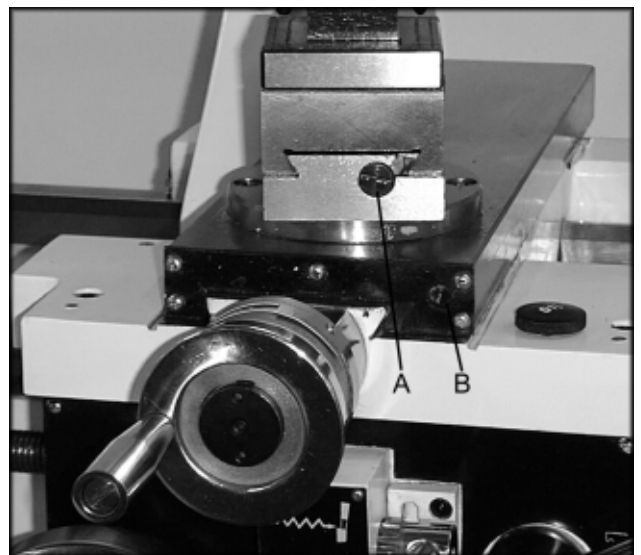

Fig. 22
2. Tighten the front gib screw (B, Fig. 22) a quarter turn. Turn the cross slide handwheel to see if the cross slide is still loose. If it is still loose, tighten the front screw a bit more and try again.
Follow the same procedure as the cross slide adjustment to adjust the compound rest. Rear gib screw is shown (A, Fig. 22). Front gib screw (not shown) is by the handwheel.